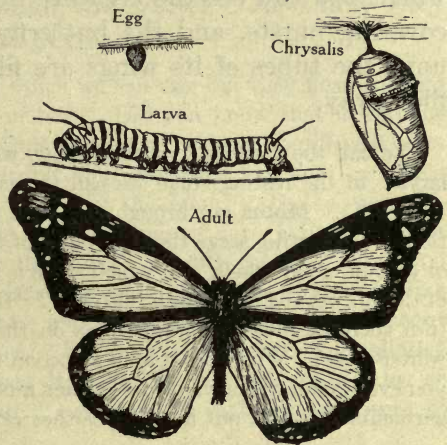

FIG. 259. — Stages in the development of a monarch butterfly.
fully formed, or **adult** (see Fig. 259). These changes may be called: (1) the **feeding** stage; (2) the **resting** stage; and (3) the **adult**, or egg-producing, stage. You would not think that butterflies and moths, which are so beautiful, and which visit flowers for their nectar, and aid plants in fertilization (see § 307), were ever the **caterpillars** that